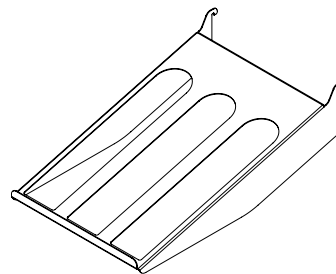

Figure 16
- (1) 3 bottle wine shelf (see Figure 16).